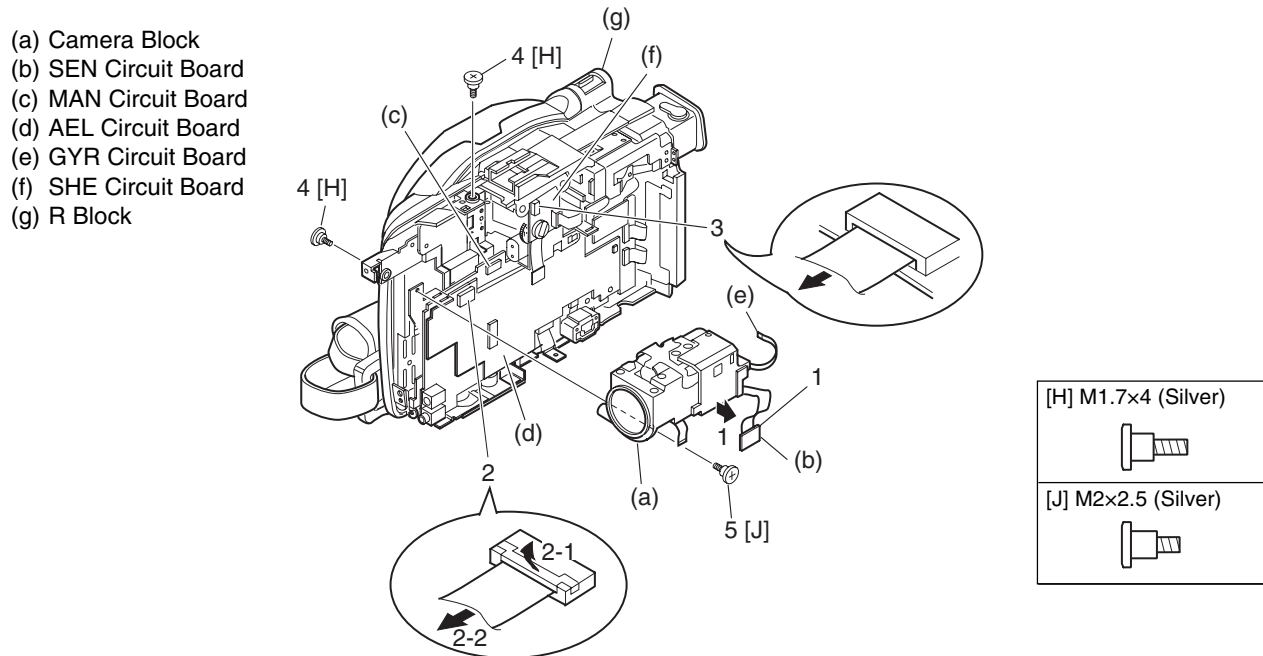

Fig. 5-3-14 Camera Block
(12) Camera Block (Fig. 5-3-14)